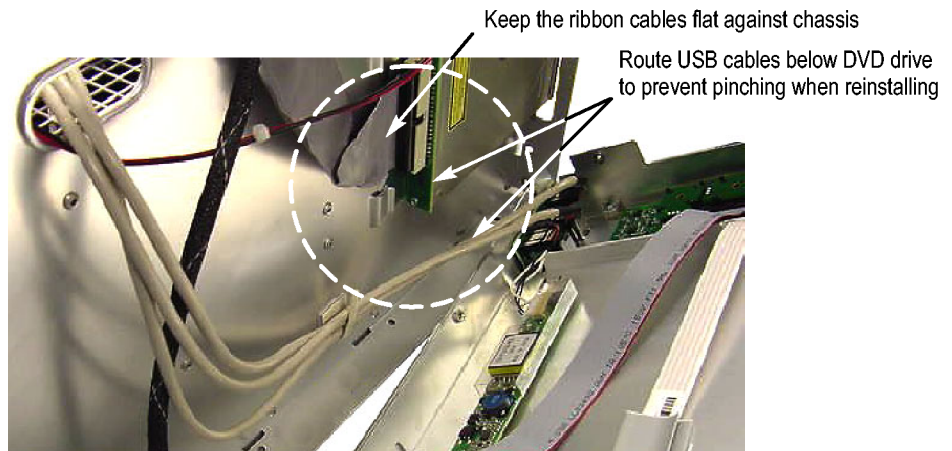

Figure 50: Dress the cables properly
12. Reinstall the front panel assembly by following steps 1 through 11 in reverse. To avoid damaging the USB and DVD cables, dress the cables properly just before you attach the front panel to the chassis. (See Figure 50.)